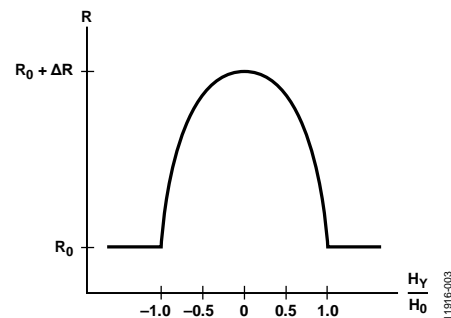

Figure 3. Permalloy Resistance vs. Magnetic Field
First, permalloy has a narrow linear operating region (see Figure 3). Only when the angle ( $\theta$ ) between the magnetization vector (M) and current flow vector (I) becomes larger, does the response become linear. Unfortunately, shortly after the response becomes linear, it will saturate.